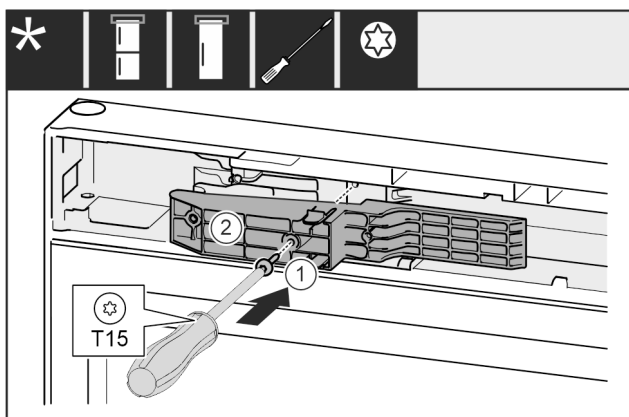

Fig. 51 \*
- ▶ Insert adapter *Fig. 51 (1)* in the recess on the handle side.\*
- ▶ Tighten screw *Fig. 51 (2)* with screwdriver.\*